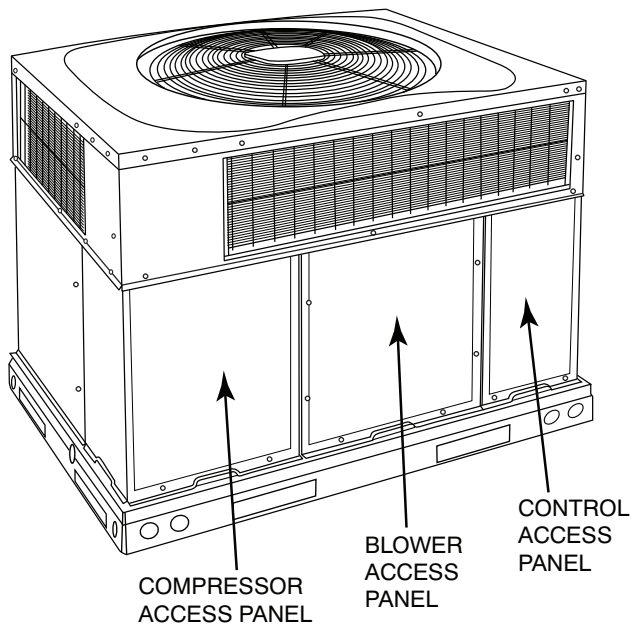

Fig. 22 - Unit Access Panels
- a. Remove blower access panel (see Fig. 22).
- g. Reinstall blower access panel (see Fig. 22).
1. Remove control access panel (See Fig. 22).
Remove blower access panel (see Fig. 22). Limit switch is located on the fan partition.
3. Remove control access panel (See Fig. 22).
Remove access panels (see Fig. 22) to locate all the electrical controls and wiring. Check all electrical connections for tightness. Tighten all screw connections. If any smoky or burned connections are noticed, disassemble the connection, clean all the parts, re-strip the wire end and reassemble the connection properly and securely.